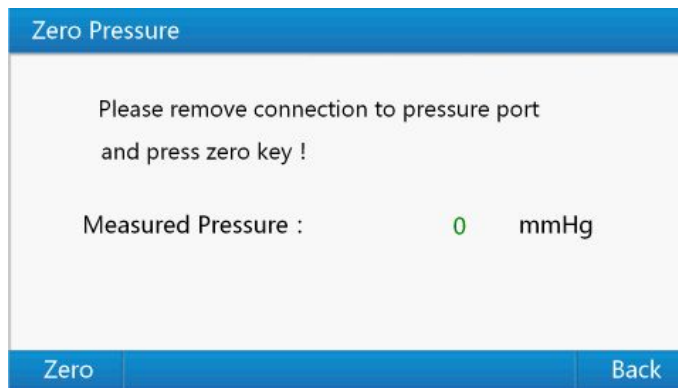

Figure 8 Zero pressure interface
- 2) Use up or down key in **"System Setup Menu"** to select **"Zero Pressure"**, then press **"Enter Key"** to zero pressure interface shown as Figure 8.